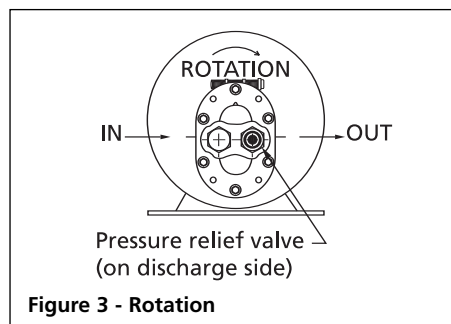

Figure 3 - Rotation
**Rotation:** When looking at the motor shaft end, proper motor pump rotation is clockwise (CW). Flow is left to right (See Figure 3). Reverse the flow by rotating the pump 180°. Standard models are equipped with pressure relief valves. It is important that the relief valve be on the discharge side of the pump. **NOTE:** Pump can be rotated 360°.
4. Recheck motor rotation. Proper motor/pump rotation is clockwise (CW) looking at the motor shaft (See Figure 3).
5. On all models, the pressure relief valve is always on discharge side (See Figure 3).